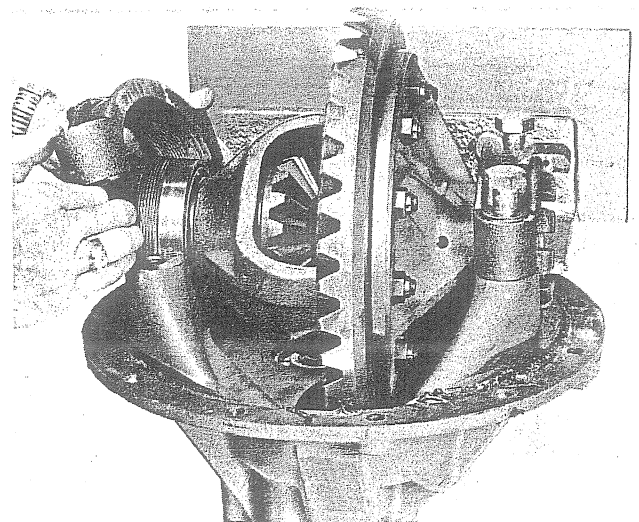

Fig. 118 - Installing Bearing Caps
17. Position bearing cups over bearings and nuts while aligning punch marks on caps with marks on carrier made during disassembly. See Fig. 118. Make certain that adjusting nuts are not cross-threaded. Tighten bearing cap bolts sufficiently to retain bearings and adjusting nuts.